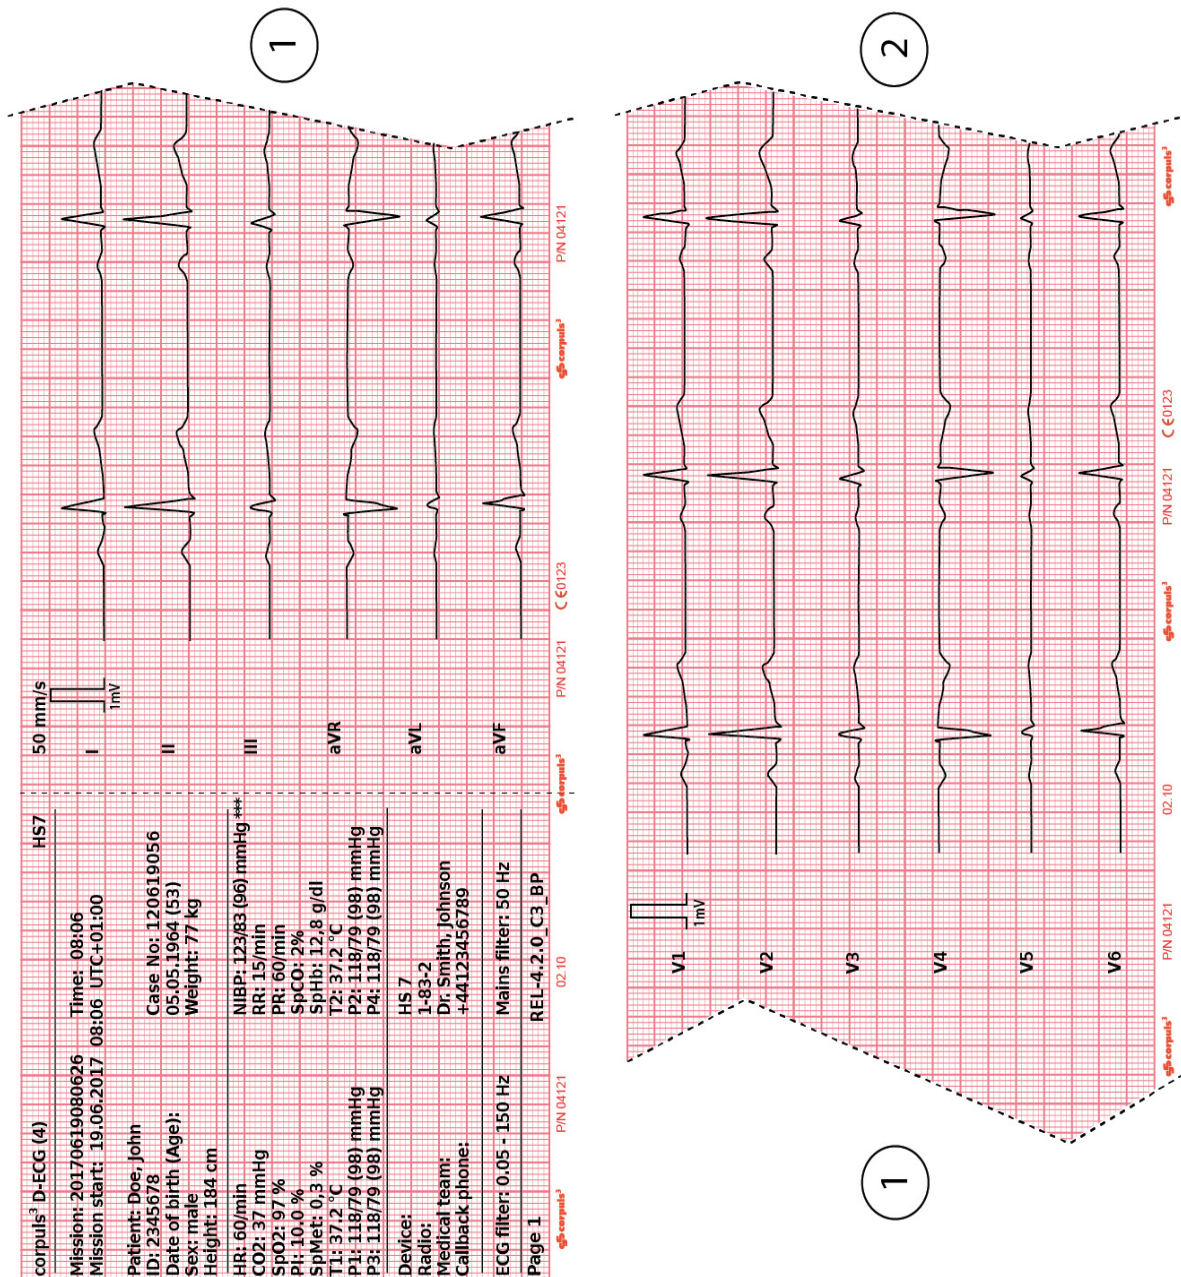

Fig. 6-12 Printout of 12-lead ECG (illustration may differ)
9. With the softkey [Print] the D-ECG is printed out for diagnosis (see Fig. 6-12 Printout of 12, page 120) and with the softkey [Send] it is sent e.g. to corpuls.mission LIVE.